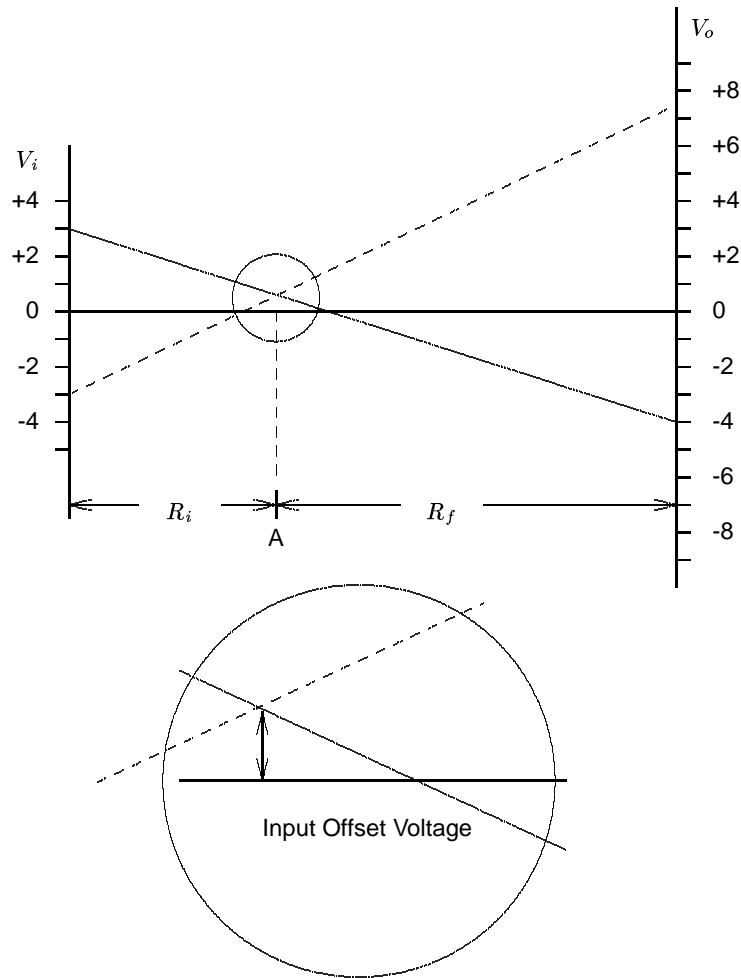

Figure 5: Offset Voltage, Inverting Op-Amp
**Offset Voltage** Unlike error voltage, offset voltage does not change polarity with the input signal. The voltage distribution diagram is shown in figure 5. The input signal still swings symmetrically between  $\pm 3$  volts but